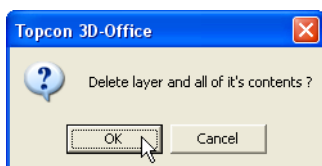

Figure 3-15. Delete Layer
2. On the confirmation dialog box, click **OK** (Figure 3-15).